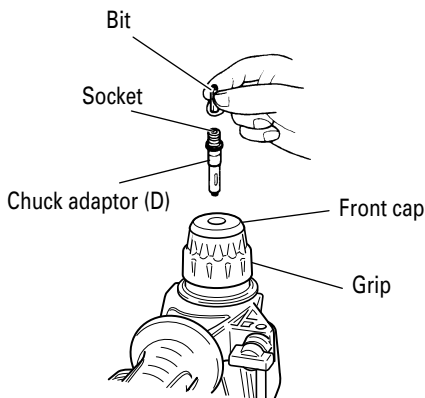

Fig. 19
6. When driving machine screws (Fig. 19)
- Do not attempt to use the rotary hammer in the rotation and hammering function with the chuck adaptor (D) and bit attached.
7. When driving wood screws (Fig. 19)